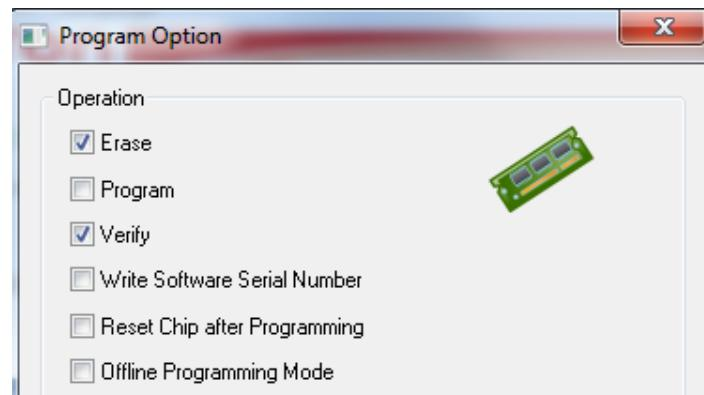

Figure 4-7 Program Option Selection
5. Select “**Option**” to enter “*Program Option*” page, as shown in Figure 4-7.